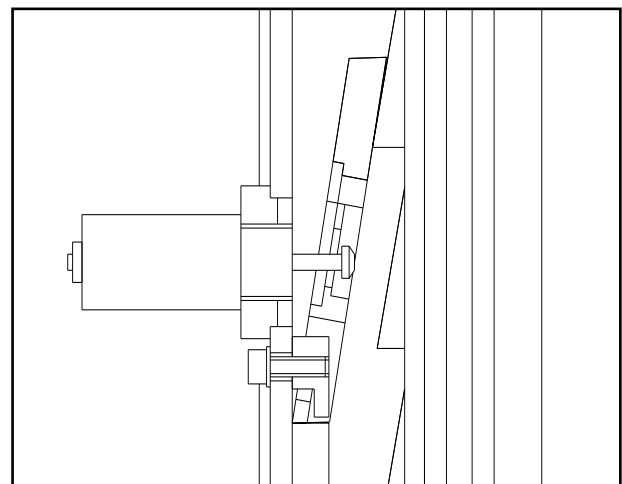

Fig. 28
- ◆ Install the safety devices including electromagnet, automatic locking board and hock board inside both columns. (**Fig. 28**) The first step should install the safety devices under both columns.
- ◆ Install the screw according to *Fig. 28*.